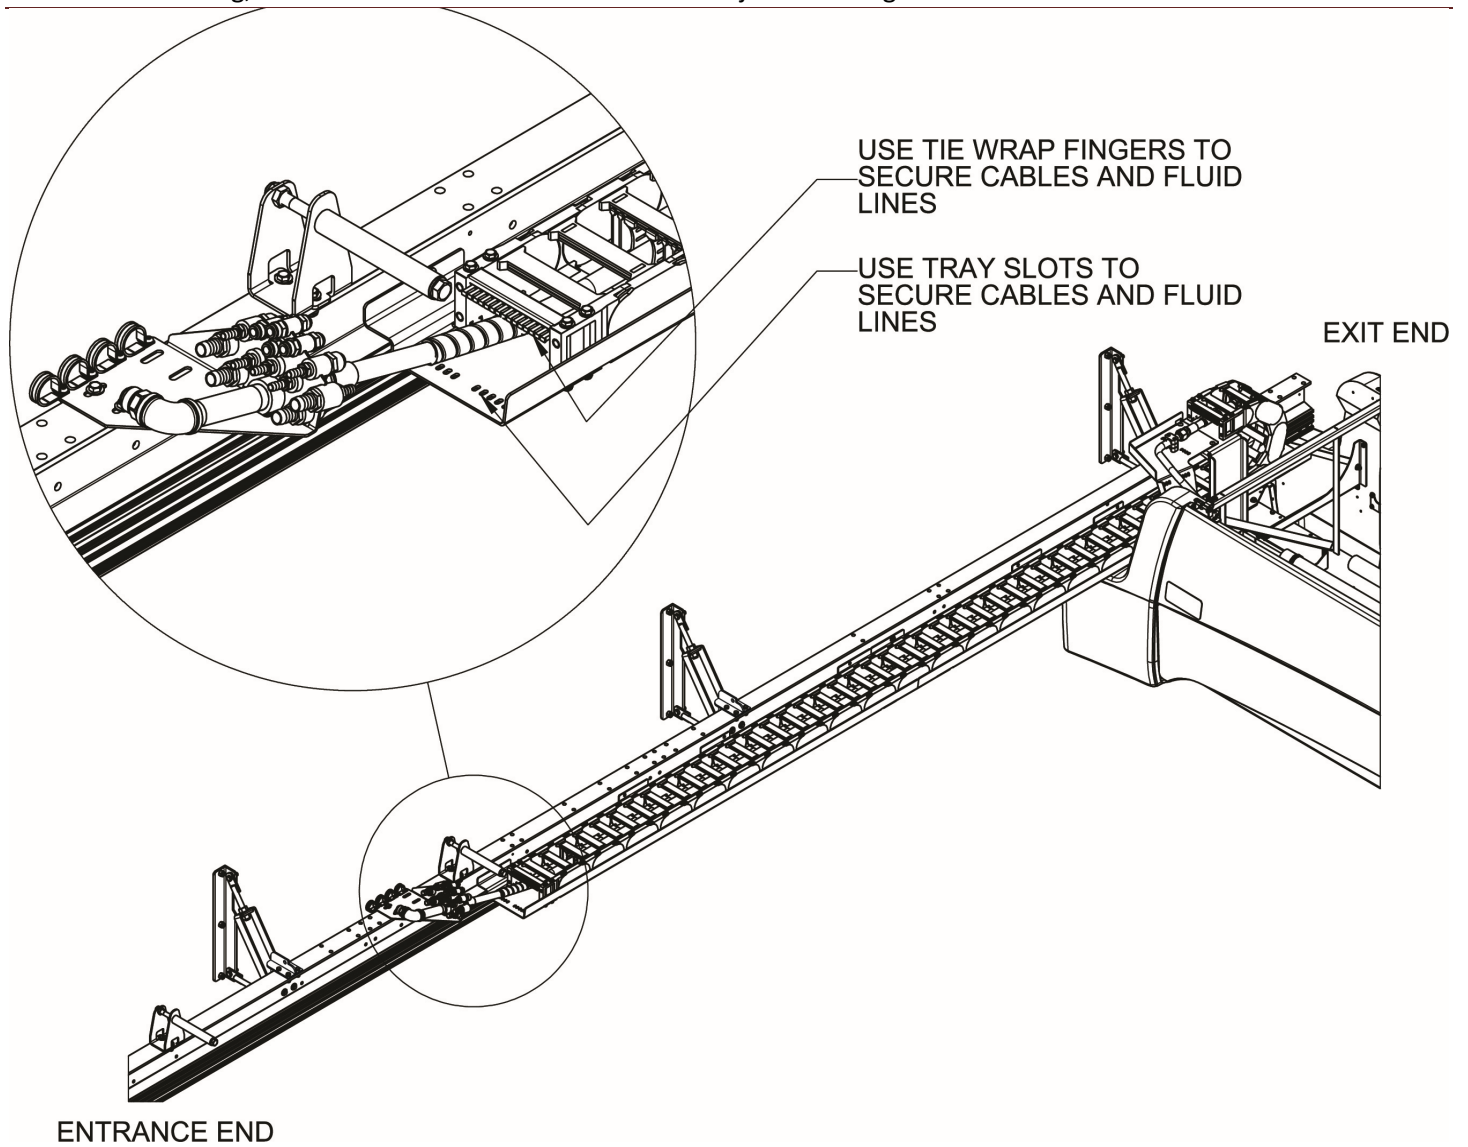

Figure 79 - Securing Cables and Fluid Lines at the Fixed End of the E-chain
- When proper position is established, secure cables and fluid lines firmly at both ends of the e-chain as shown in Figure 79 and Figure 80. Use cable ties (site provided) to secure them on the e-chain cable tie fingers or the slots in the tray and the mounting bracket. Each cable and fluid line should be secured with an individual cable tie.